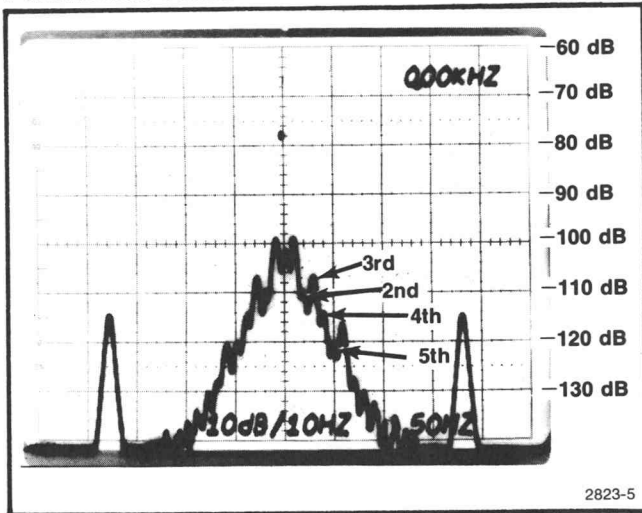

Fig. 4-4. 10 Hz harmonic distortion display.
g. Note the 2nd, 3rd, 4th, and 5th harmonics on the displayed waveform (see Fig. 4-4). If the harmonic amplitudes on either side of the 0 Hz are slightly different, average the two readings for each harmonic.
Add the calibration fixture correction factors to the harmonic distortion levels noted in step 9 part g. For example, using the harmonic distortion levels in Fig. 4-4 and the calibration fixture correction factors for 10 Hz Notch Frequency: